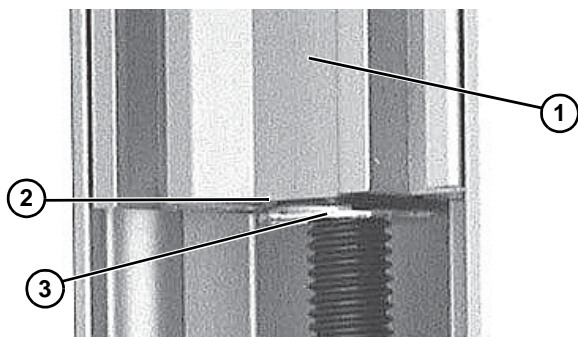

Figure 17
- Lower stand leg (**Figure 17, item 1**) until stand edge (**Figure 17, item 2**) is resting on lower nut (**Figure 17, item 3**) flange.